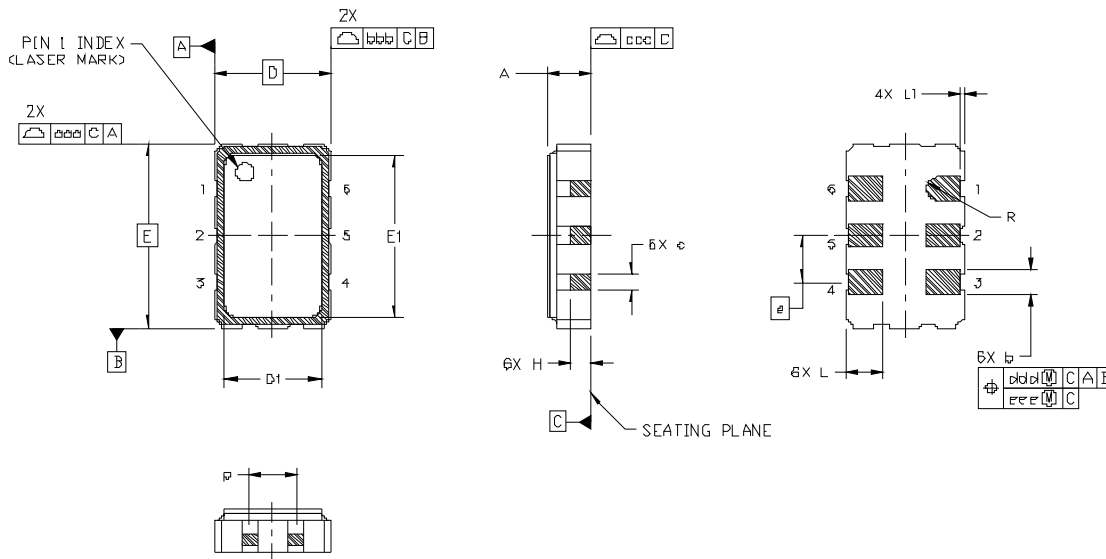

Figure 5. Si510/511 Outline Diagram
Figure 5 illustrates the package details for the 3.2 x 5.0 mm Si512/513. Table 17 lists the values for the dimensions shown in the illustration.
- Updated Figure 5 outline diagram to correct pinout.